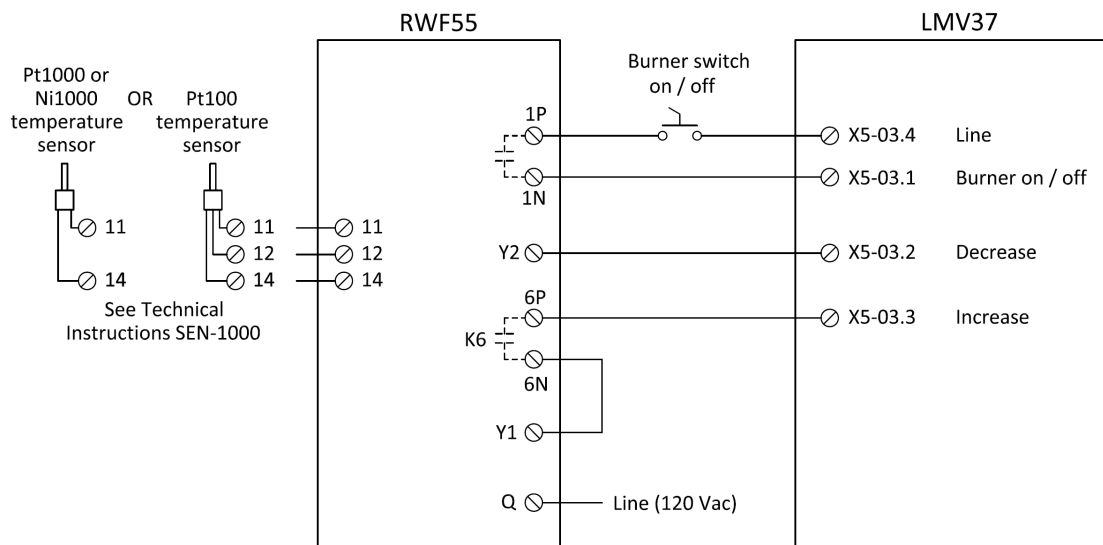

Figure 6: Low Fire Hold via 3-position Output on a Hot Water Boiler
2. Wire the LMV37 and RWF55 as shown in Figure 6: